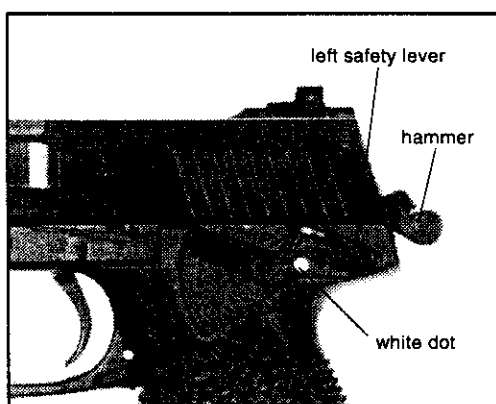
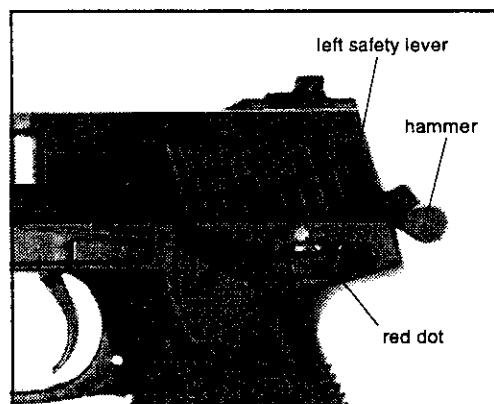

Figure 4a Safe Position
Figure 4b Fire Position
- A. **Double/Single Action** - For double-action (DA), pulling the trigger will cock the hammer and immediately release it discharging a chambered round. To fire the first chambered round in single-action (SA), the hammer must be manually cocked before pulling the trigger. All shots after the first one will be fired single-action because the slide automatically recocks the hammer after each shot.
- E. **Safety Lever** - The safety lever is an ambidextrous "thumb" lever located on the rear of the frame. It is actuated by the firing thumb of the operator. The safety lever blocks the release of the cocked hammer when it is in the engaged (up) "safe" position (See Figure 4a). The safety lever is depressed downward into the "fire" position (See Figure 4b). The safety lever is not spring actuated and therefore must be moved manually from one position to the other by the operator.